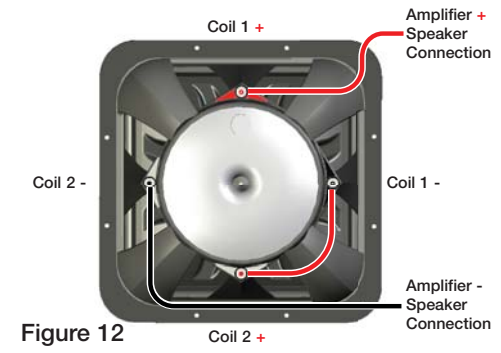

Figure 12
3. Connect the wiring to the four binding posts on the new SPAIR. Refer to Figure 11 and Figure 12 on the following page and follow the appropriate wiring diagram to achieve the desired ohm load. If your system was properly configured, you will simply reconnect the wires to the voice coils as they were on the old SPAIR.